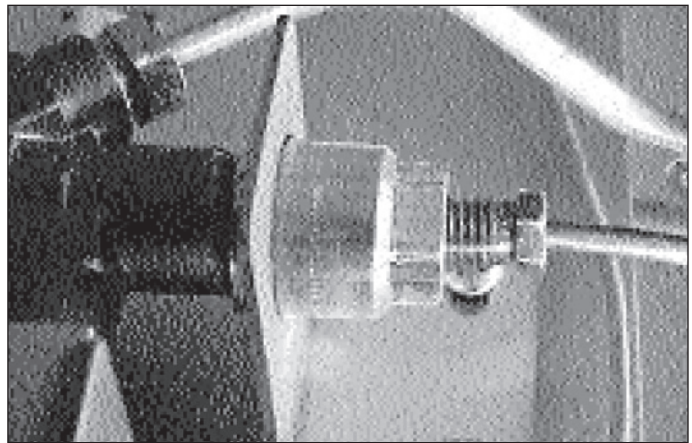

Figure 5-17.
2. Check thermocouple connections. (See Figure 5-17)